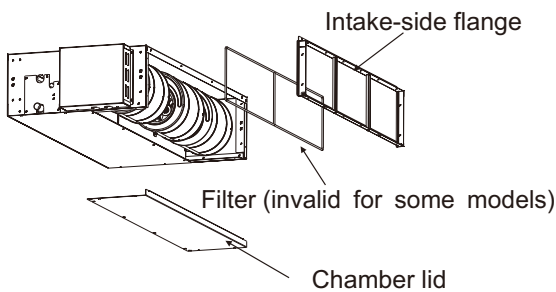

Fig. 3.1.3
- (1) Remove the intake-side flange, then remove the chamber lid. Refer to Fig. 3.1.3 for the directions.